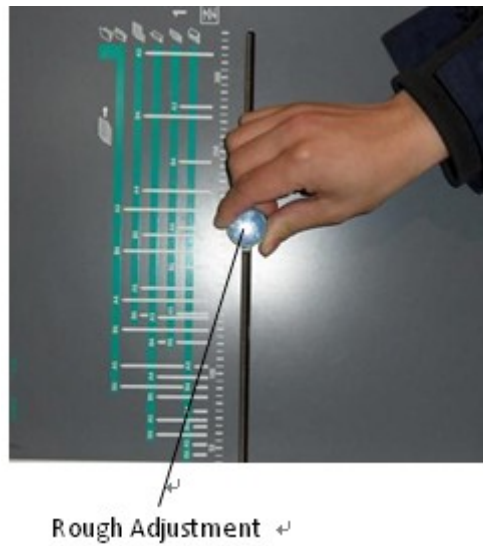

Fig.8 Rough adjustment
- 1) Pull up the rough adjustment knob, slide it to the wanted position (See Fig.8)